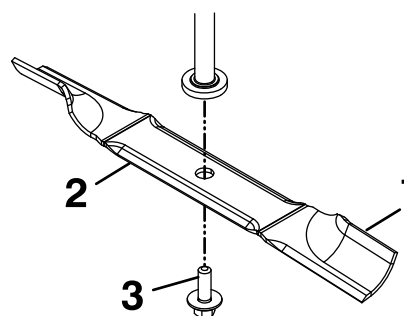

Figure 51
2. With the wrench still on the blade bolt, hold the blade spindle stationary and using a rag or thickly padded glove, try to rotate the blade. If the blade rotates relative to the spindle guard without further tightening the blade bolt, the spring disc washer has been flattened or damaged and the bolt and washer assembly must be replaced (Figure 51). Refer to **Removing the Blades** and **Installing the Blades**.
Hold the blade end using a rag or thickly-padded glove. Remove the blade bolt and washer assembly and blade from the spindle shaft (Figure 51).
1. Install the blade onto the spindle shaft (Figure 51).